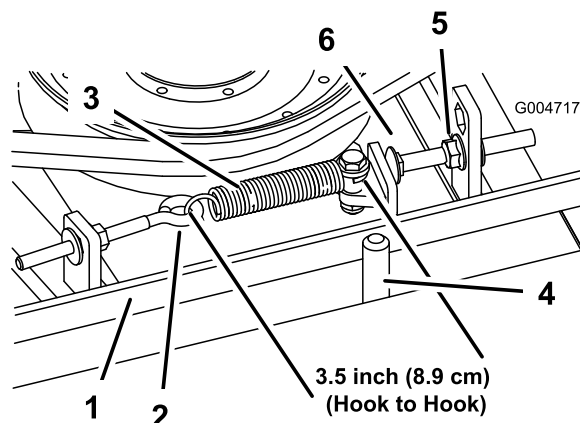

Figure 65
When properly tensioned, the extension spring (hook to hook) measurement should be approximately 3.50 $\pm$.25 inch (inside). Once the correct spring tension is attained, adjust the stop bolt (carriage bolt) until there is approximately .125 $\pm$.060/-0.000 inch clearance between the head of the bolt and the idler arm (Figure 65).
Note: Make sure the belt is positioned on the spring side of the belt guide (Figure 65).
2. Loosen the eye bolt allowing the removal of the extension spring (Figure 65).
3. Loosen the flange nut securing the stop bolt to the mounting tab. Back off the nut enough to allow the idler arm to pass by the stop bolt (Figure 65). Move the idler pulley away from the belt to release belt tension.
8. Reconnect the extension spring (Figure 65) to the eye bolt and tension the belt as follows: